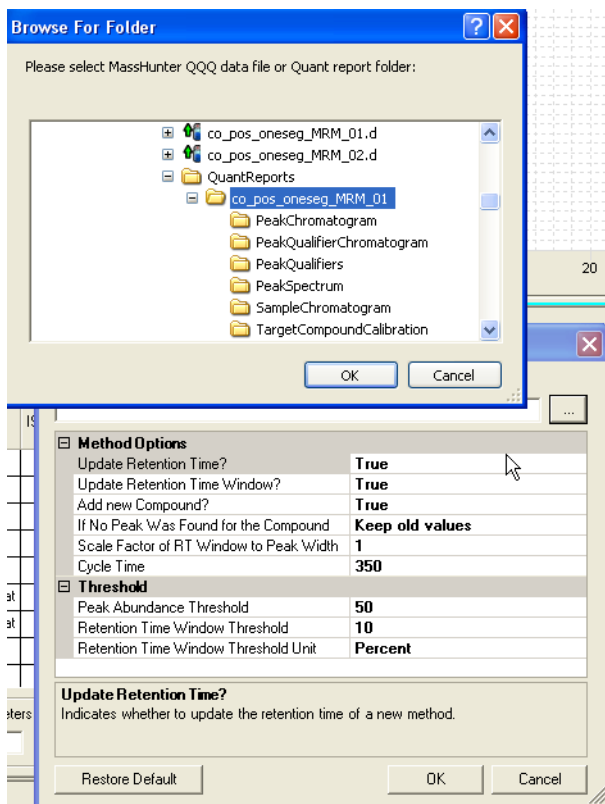

Figure 34 Navigation to Quant Report folder. Select the Quant report folder of the data file to be used to update the method.
- b In the Dynamic MRM Update Options dialog box (Figure 13 on page 26), click the Browse button (...) and select the Quant folder (inside of the data folder) of the manual report that was generated as shown in Figure 34.